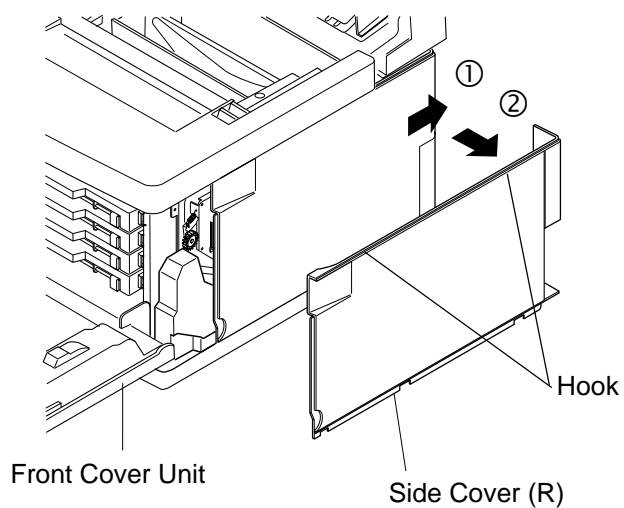

Fig.7-8
- 2) Slide the side cover (R) in the direction of the arrows as shown in Fig.7-8.
- 3) Remove the side cover (R) by releasing the two hooks.